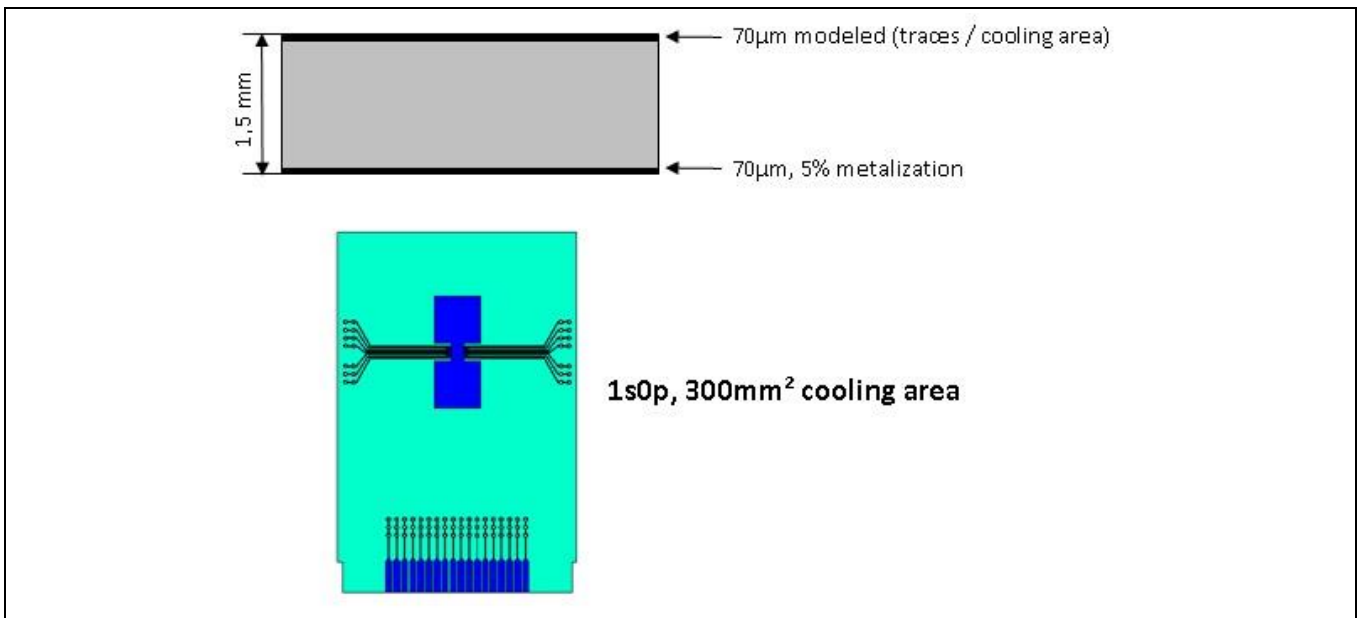

Figure 57 JESD51 1s0p PCB configuration
- Junction to Ambient 1s0p: See Figure 57. This is the case where the PCB consists of a single layer of 70um copper, and the device exposed pad is thermally connected to 300mm² of cooling area.